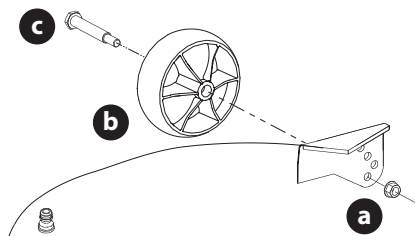

Fig. 12
- Remove the lock nut (a), gauge wheel (b) and shoulder screw (c) from the deck (Fig. 12).
- Insert the shoulder screw (c) into one of four index holes on the deck wheel bracket. Allow a 1/4-1/2 inch (6.35-12.7 mm) clearance between the ground and gauge wheel (Fig. 12).